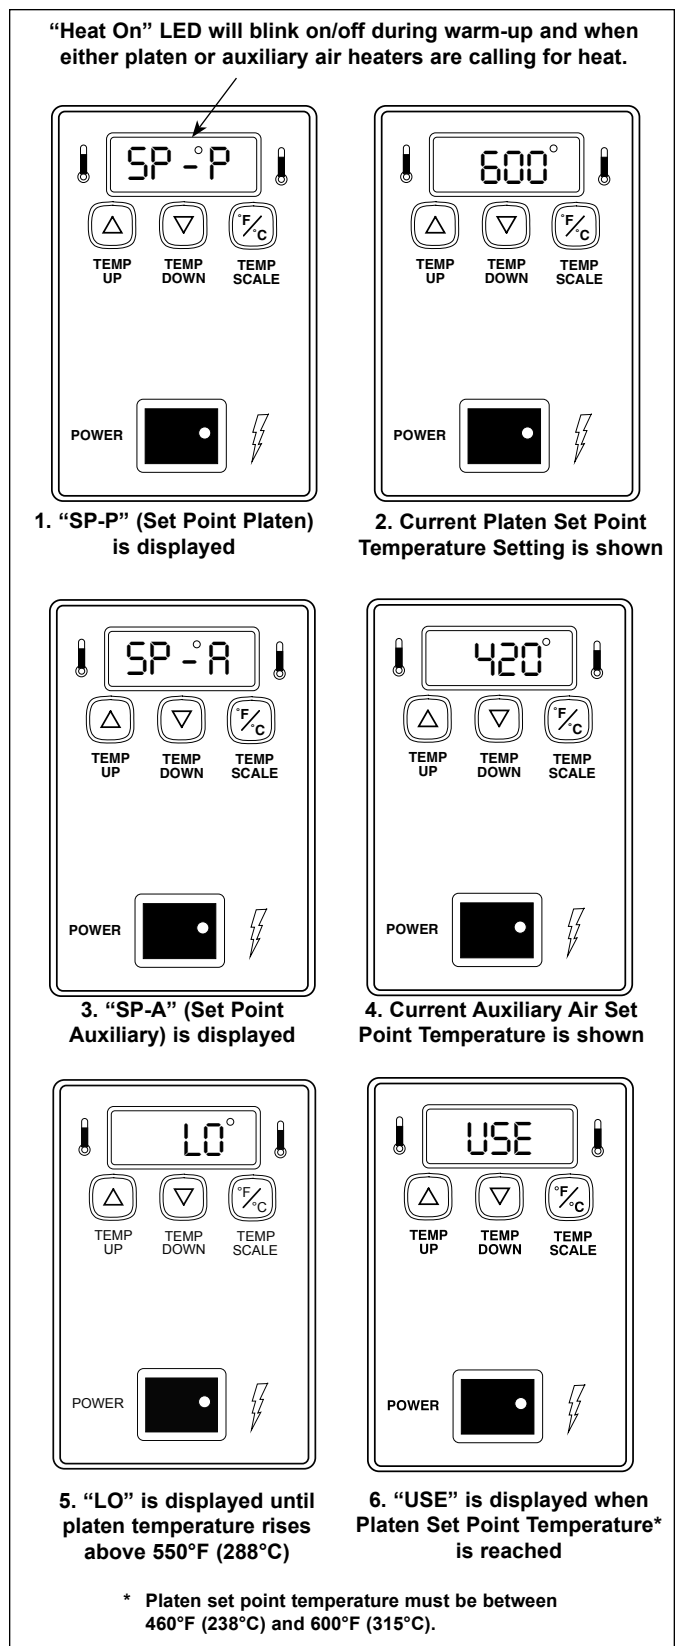

Figure 4. Temperature Power Up Sequence
1. Turn the power on and wait for the Temperature Display to finish the power up sequence (Figure 4).
1. Turn the power on and wait for Temperature Display to finish the power up sequence (Figure 4).